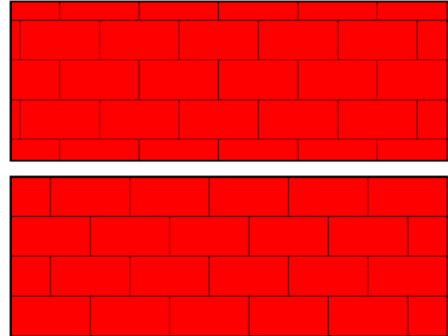

FIGURE 15-4: Poorly laid red bricks (top); properly laid red bricks (bottom).
- *None*: This button refers to background color, which can be useful when using hatching to portray actual objects. For example, a brick pattern can have a red background so that the hatched region looks like red bricks, as shown in Figure 15-4.
AutoCAD typically creates hatched areas by having them radiate outward from the origin, effectively turning them on and off as they encounter boundaries. This behavior can cause problems with some real-object patterns, however. You wouldn't want a brick wall to start with 68.3 percent of a brick, so the Origin option lets you snap to an exact point, as shown in Figure 15-4. You may also want to check out Chapter 9's reference to the need for a brick layer.